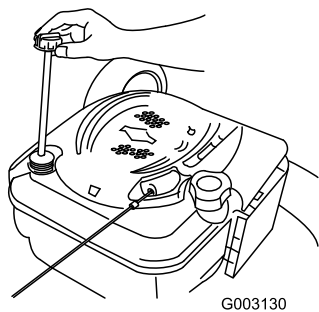

Figure 30
2. Remove the dipstick (Figure 30).